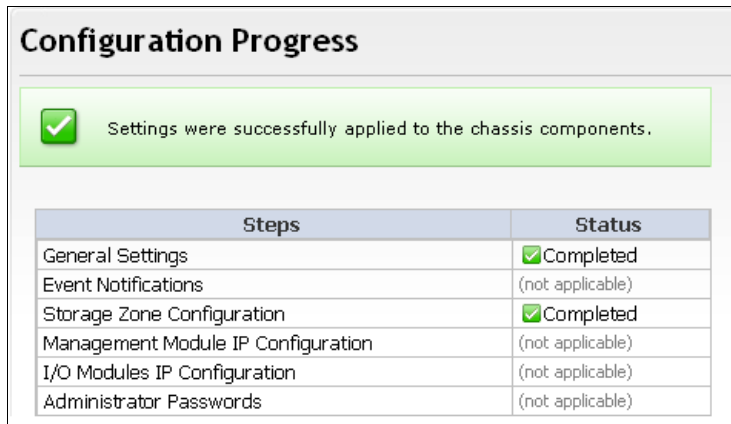

Figure 2-15 Configuration progress
14. Once the configuration is completed, the “Configuration Progress” panel will look like Figure 2-15.